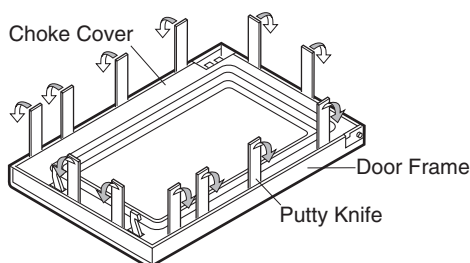

Figure C-4. Door Disassembly
- Remove door stopper, then release two (2) pins of door panel from two (2) holes of upper and lower oven hinges by lifting up.
- Insert a putty knife (thickness of about 0.5mm) into the gap between the choke cover and door frame as shown in Figure C-4 to free engaging parts.
- Pry the choke cover by inserting a putty knife as shown Figure C-4.